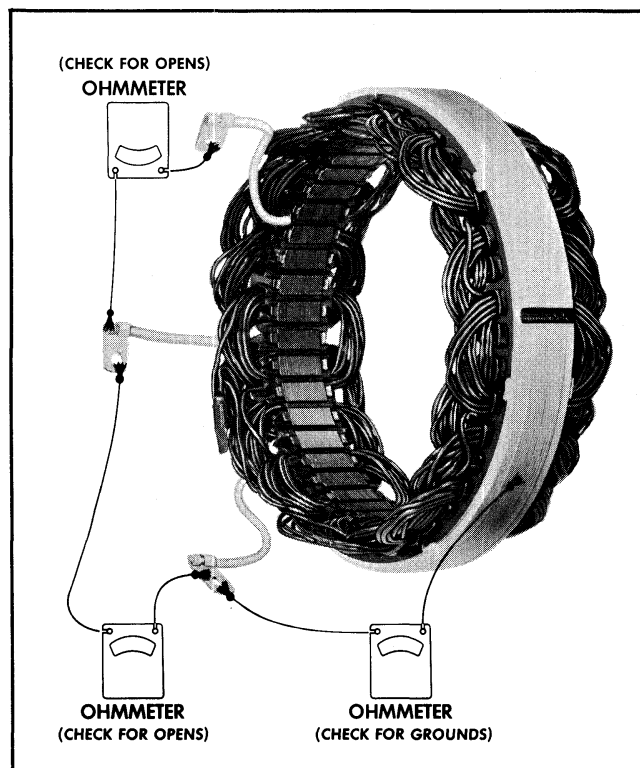

Fig. 11-20 Checking Stator
a. To check for grounded windings, connect lamp or ohmmeter from any stator lead to frame. If lamp lights or ohmmeter reading is low the stator is grounded (see Fig. 11-20).
b. To test for opens, successively connect 110 volt test lamp or an ohmmeter between stator leads. If lamp fails to light and if ohmmeter reading is high, there is an open in the stator windings (see Fig. 11-20).